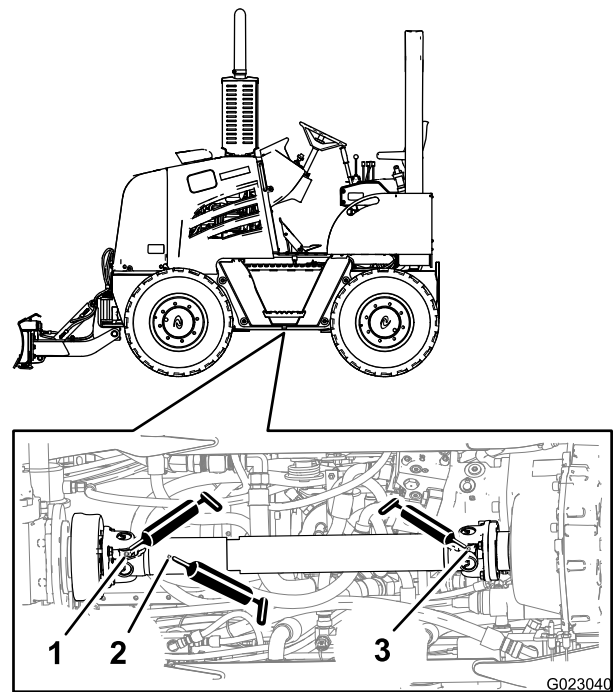

Figure 33
2. Connect the grease gun to the grease fitting for the slide coupling at the forward end of the drive shaft, and apply 2 or 3 pumps of grease to the fitting (Figure 33).